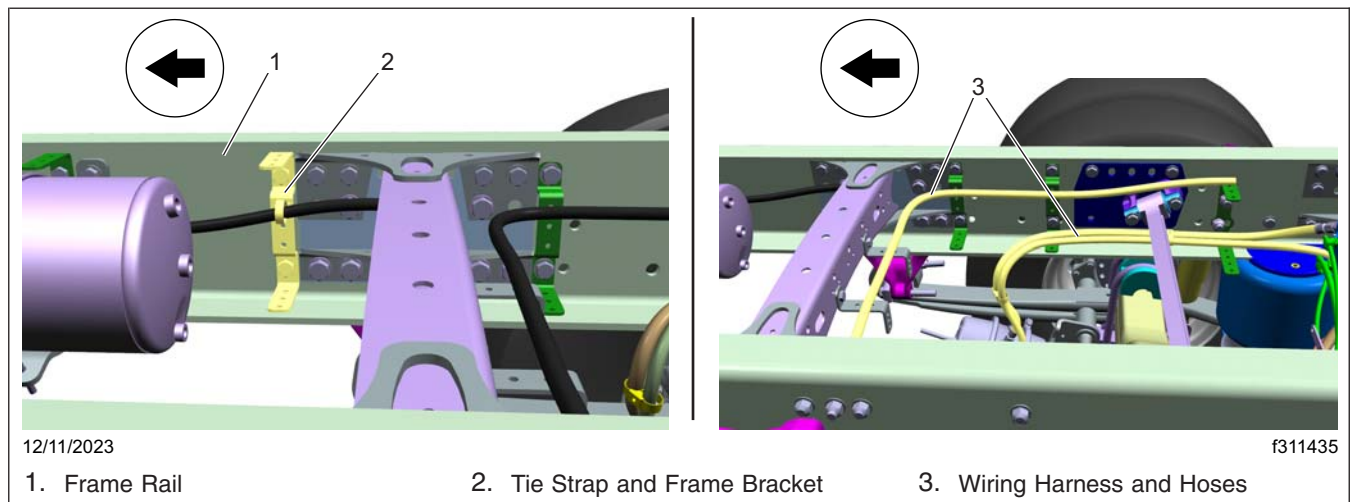

Fig. 1, Right-Hand Frame Bracket, Wiring Harness, and Hoses
5. Remove the tie straps that secure the wiring harness and hoses to the frame rails, then gently move the wiring harness and hoses to access the bracket mounting fasteners. See Fig. 1.